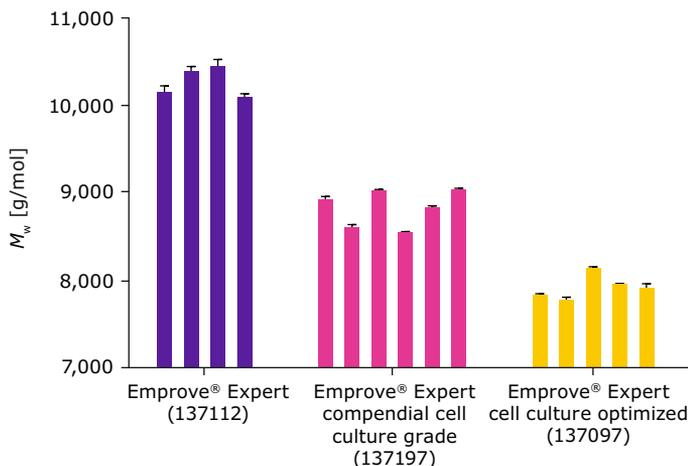

Figure 6.
For comparison purposes, the molecular weight M_w of the three Poloxamer 188 Emprove® Expert products was measured by using SEC. Figure 6 shows the distinct M_w values and high batch-to-batch consistency for each of the three Poloxamer 188 Emprove® Expert products optimized for different applications.
A reversed phase (RP)-HPLC method is used to determine the level of hydrophobic species in the Poloxamer 188 Emprove® Expert products as described in literature. Here, the hydrophobic species elute at a longer retention time.² 137112 Poloxamer 188 Emprove® Expert Ph Eur, NF for liquid applications has a higher molecular weight and a high amount of hydrophobic species while 137197 Poloxamer 188 Emprove® Expert compendial cell culture grade Ph Eur, NF contains fewer hydrophobic species. 137097 Poloxamer 188 Emprove® Expert cell culture optimized has almost none of these species, and a lower molecular weight (Figure 6 and 7).